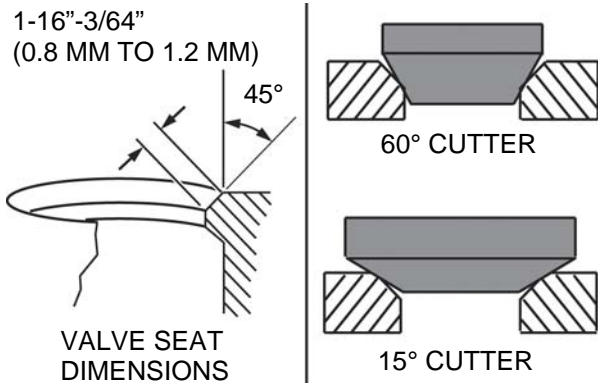
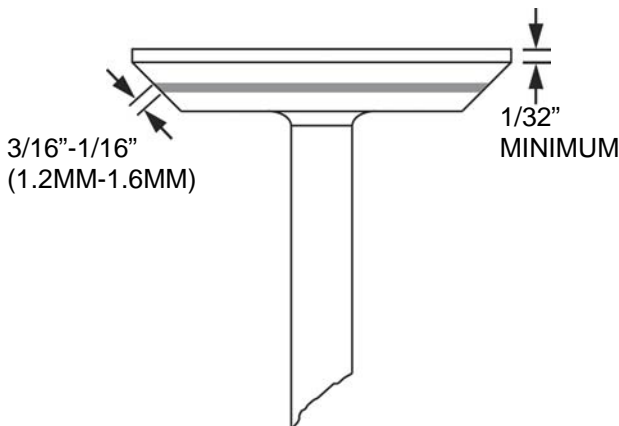

Fig. 88
Fig. 89
2. Valve seats may be reconditioned using valve seat cutter tool #19237 and #19343. If valve seat is wider than dimension shown in Fig. 88, a narrowing cutter should be used to ensure that contact area of valve seat is centered on face of valve as shown in Fig. 89.
- a. Use a 605 cutter to narrow seat from bottom and a 155 cutter to narrow seat from top, Fig. 88.
3. Valve faces may be resurfaced to 45°. See Fig. 89 for dimensions for valves.